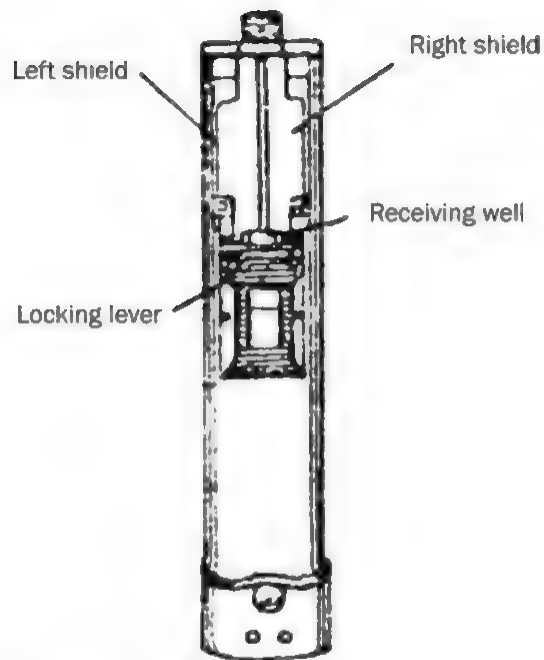

Figure 70. Magazine feed lid.
**Machine-gun with the magazine feed.** Check if there is a lid for the magazine feed installed on the machine-gun (figures 70 and 71). Load the cartridges into the magazine. To do this, insert the special key into the axis pin of the winding spring of the right drum. Wind it up completely. Repeat the same procedure with the left drum. Load cartridges through the aperture that is between the drums. When the viewing hole marked 75 on the right shows a cartridge — stop loading. The magazine is now fully loaded.